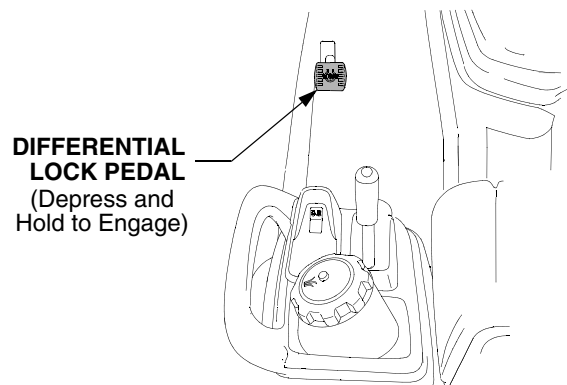

Figure 17
- Fully depress and hold the differential lock pedal to engage the transmission differential lock. Release the pedal to disengage the differential lock. Refer to Figure 17.